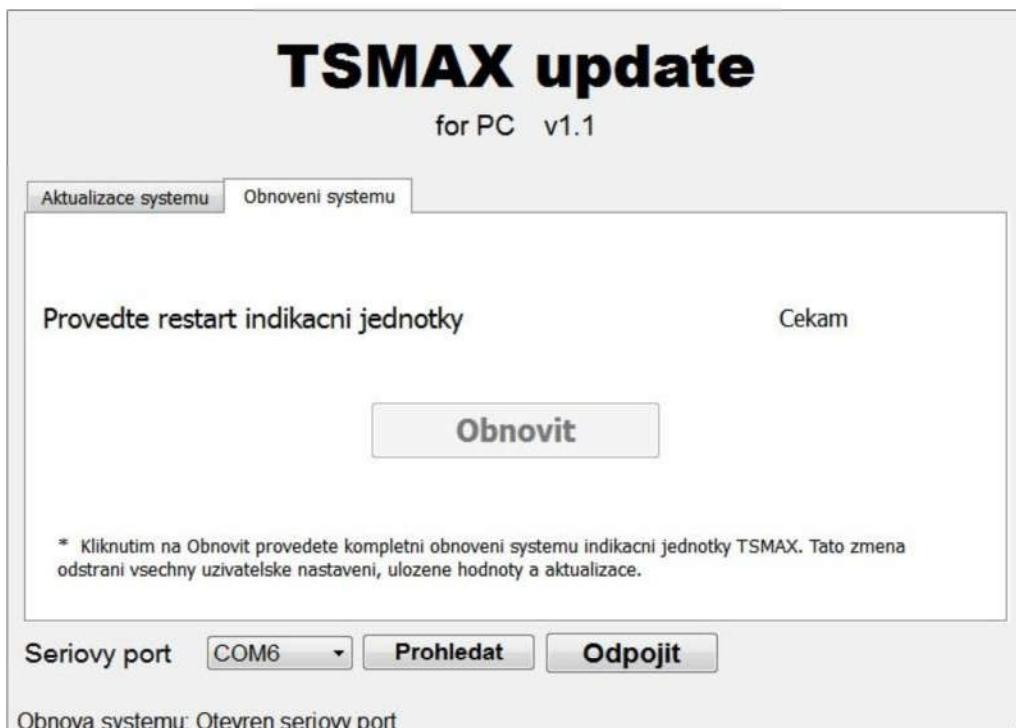

Fig. 57: System restart – connection of serial port
- ⑩ The lower side of the window includes the status line which informs on the whole system restart.
- ⑩ At first press button „**Prohledat**“ (search) to search all series ports used in PC. Then select the specific series port where the readout unit is connected.
- ⑩ Finally press button „**Pripojit**“ (connect).
- ⑩ If everything is ok, the button appears with the required readout unit restart (see fig. 57: System restart – connection of serial port).
- ⑩ After manual restart button „**Obnovit**“ (restart) is available. The system restart commences.